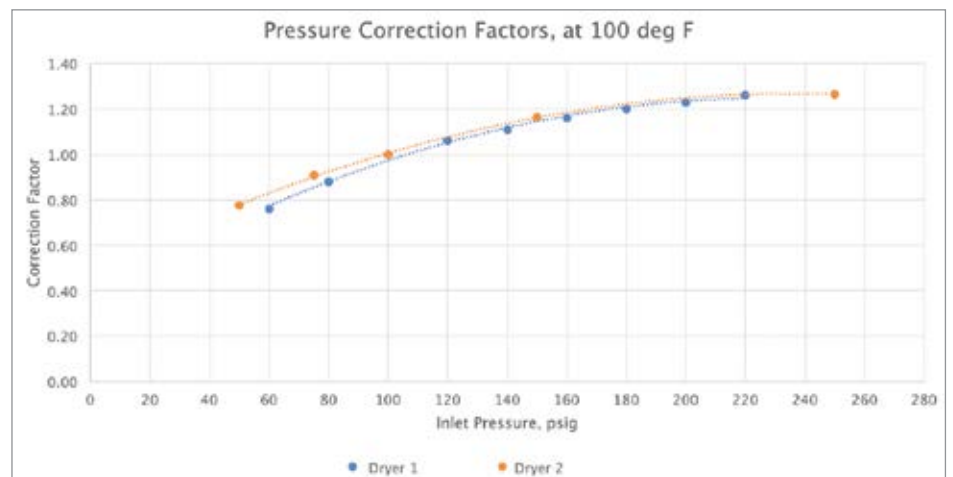

Figure 1. Typical Refrigerated Air Dryer Correction Factors for Temperature
saturated, or 100% relative humidity (RH), water vapor is at the “saturation pressure.” Thus, a higher temperature compressor outlet dramatically affects the water vapor load on the dryer. For every 10 °F increase, the mass of water increases about 35%. See Figure 1 for two manufacturers' correction charts for refrigerated air dryers.